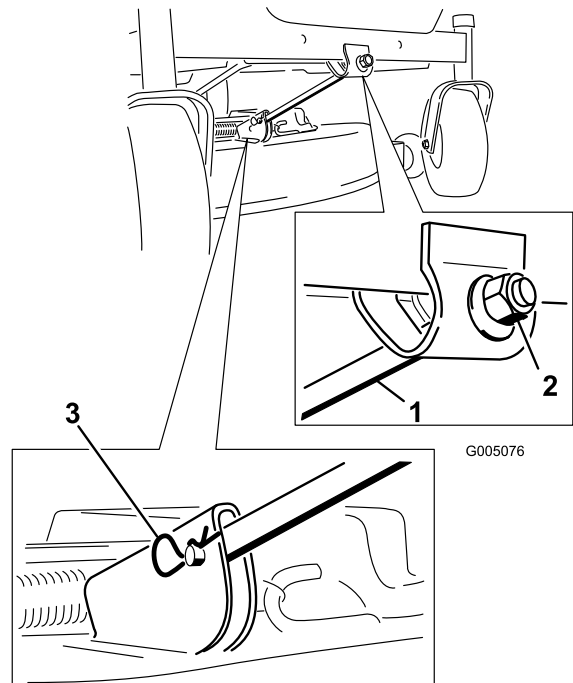

Figure 44
- Remove the hairpin cotter and clevis pin from the front support rod (Figure 44). Carefully lower the front of the mower deck to the ground.
6. Attach the front support rod to the mower deck with the clevis pin and hairpin cotter (Figure 44).